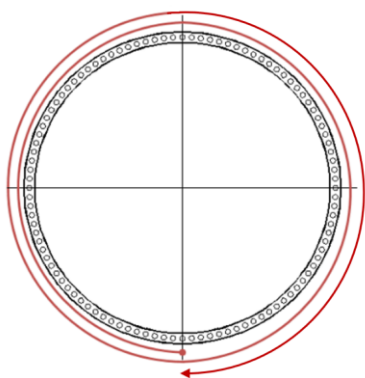

Figure 9: Step 4 - apply pre-torque to all the studs in two circles
4. A) For flatwasher configuration: Loose nuts again (one by one) and apply the specified pre-torque to all the bolts in the circle (see Figure 9). Mark the starting point following a sequential order and continue to re-apply the pre-torque one by one to the bolts in the initial half of the circle (Figure 9). Mark all pre-torqued studs (white), to ensure that 2 circles are torqued.
5. B) For wedgelock configuration (**Loosening of nuts is not required**) : Apply the specified pre-torque to all the bolts in the circle (see Figure 9). Mark the starting point following a sequential order and continue to re-apply the pre-torque one by one to the bolts in the initial half of the circle (Figure 9). Mark all pre-torqued studs (white), to ensure that 2 circles are torqued.